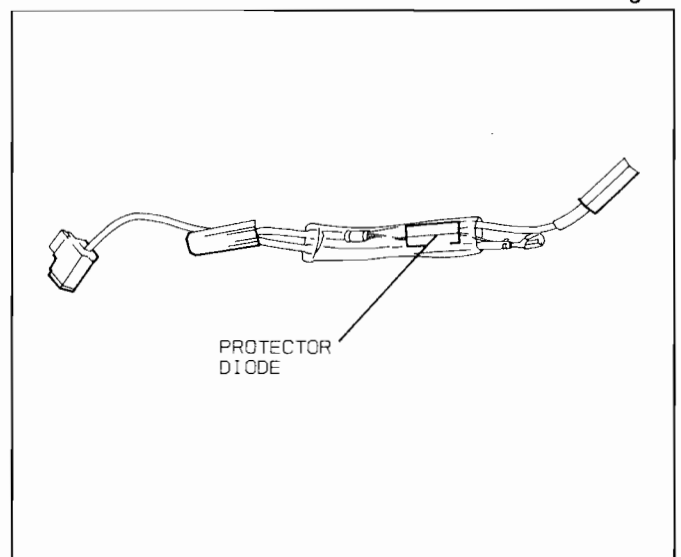

Fig. 34
8. Protector diode (Fig. 34)
- (A) Isolate the protector diode assembly from the circuit by disconnecting its leads.
- (B) With the ohmmeter set on the highest resistance scale, measure the resistance across the protector diode terminals. Reverse the meter leads and again observe the resistance reading. A normal protector diode's resistance will be infinite in both directions. It is faulty if it shows continuity in one or both directions.